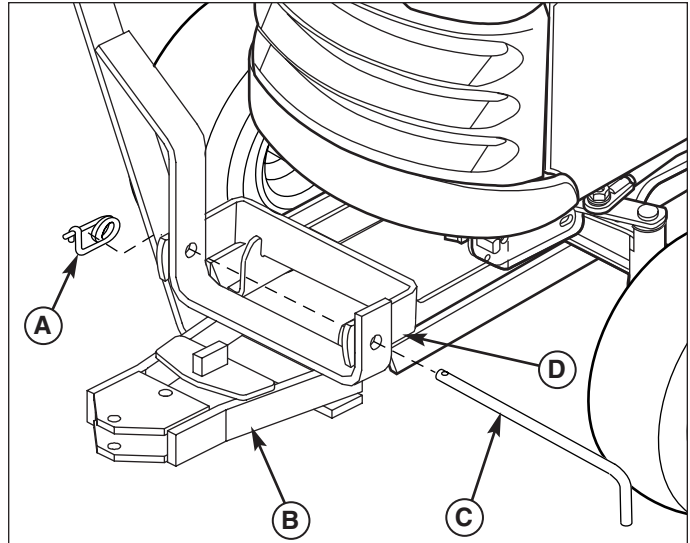

Figure 9. Install pivot hitch Assembly
1. Position the pivot hitch (B, Figure 9) under the front of the sub-frame hitch (D).
2. Secure the pivot hitch (B) to the front set of holes in the sub-frame hitch (D) and secure using the long hitch pin (C, included with the sub-frame hitch) and safety clip (A).